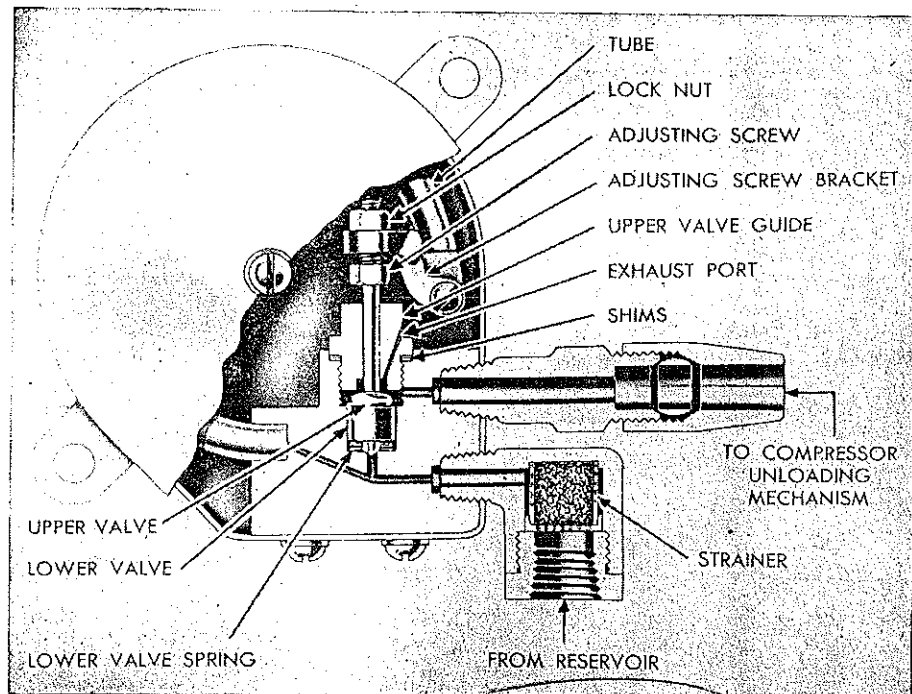

Fig. 8 Sectional view of Type O-1 Governor
The design of the compressor governor is based on the principle of a Bourdon tube, which is a flattened metal tube bent to a curve that tends to straighten under internal pressure, Fig. 8. This reaction by the tube, due to changes in air pressure in the tube, increases or decreases the spring load on the valve mechanism of the governor and makes the valve mechanism assume its "cut in" or "cut out" positions in accordance with the air pressure in the reservoir.
4. When necessary, the pressure settings (cut-in and cut-out pressures) may be adjusted after removing the cover. The pressure settings are raised by loosening the adjusting screw lock nut and turning the adjusting screw clockwise viewed from the top, Fig. 8. Pressure settings may be lowered by turning the adjusting screw counter-clockwise. The lock nut must be tightened after any adjustment.
- Adjustment of the range between the cut-in and cut-out pressure is made by removing shims beneath the upper valve guide, Fig. 8, to increase the range or by installing additional shims to decrease the range.